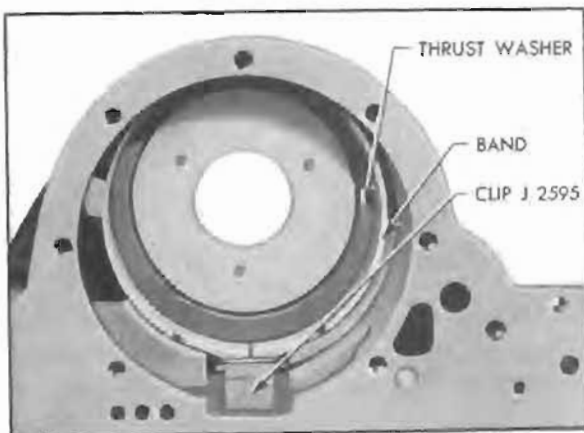

Figure 4-130—Ring Gear Thrust Washer and Reverse Band Installed
2. Compress ends of reverse band with Band Installing Clip J 2595 and install in case. See figure 4-130. Remove the clip. NOTE: Reverse band does not have strut locating pins in ends—low band has pins.